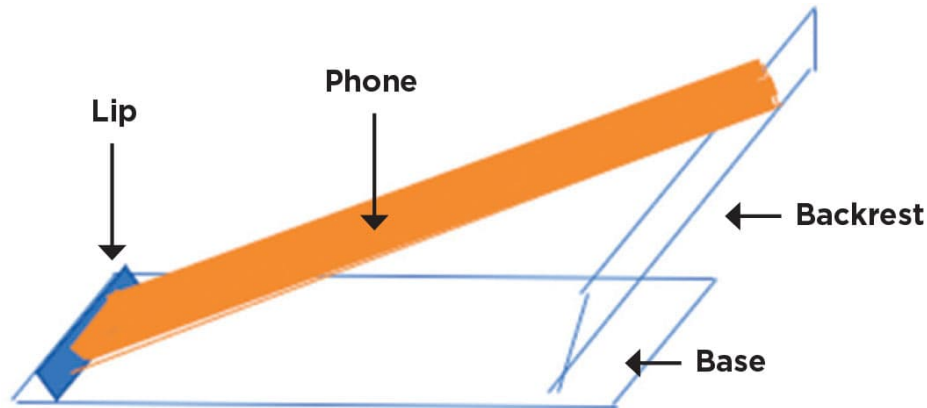

FIG. 1: A rough sketch of a cellphone stand with a phone.
1. We begin the design process with a rough sketch of what we'd like the cellphone stand to look like with the four elements mentioned in the design notes. Use fig. 1 as a guide, but you can vary some aspects, such as the shape of the lip, backrest, and base.